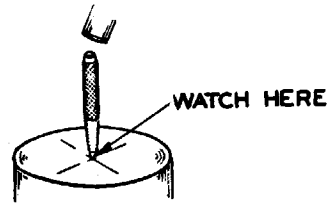

FIG. 5
3. Watch the point of action while striking the hammer, not the head of the hammer (Figure 5). By using this method, better work can be done.